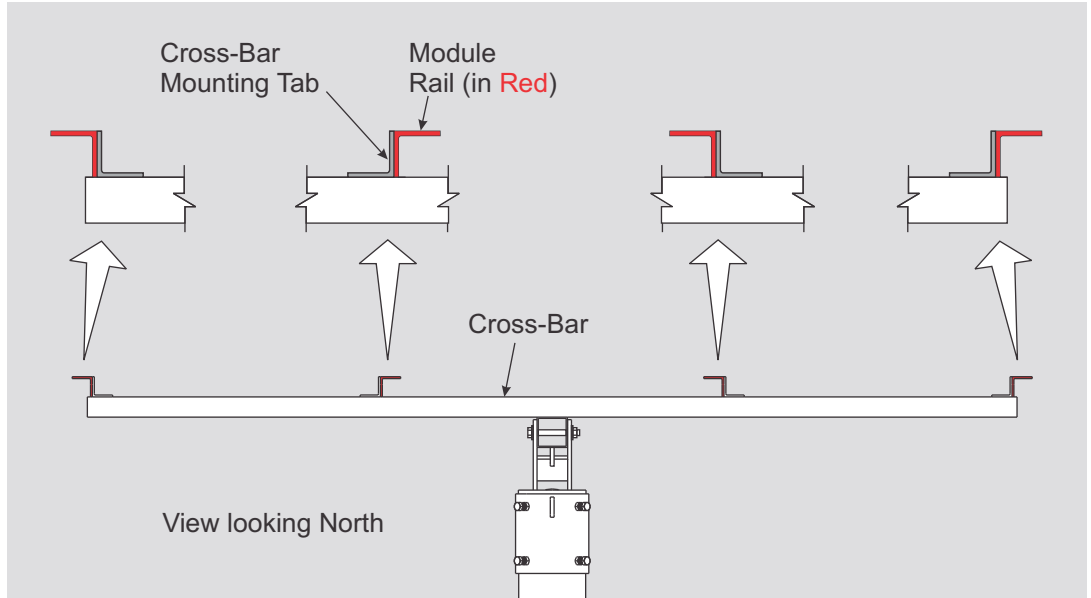
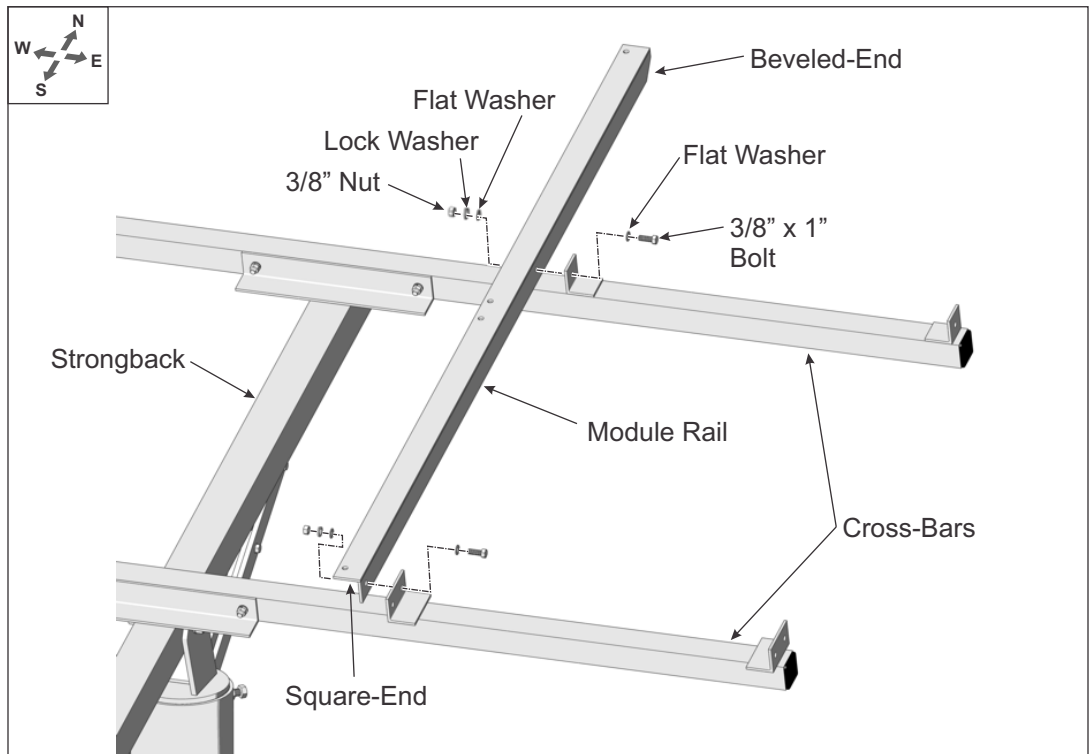
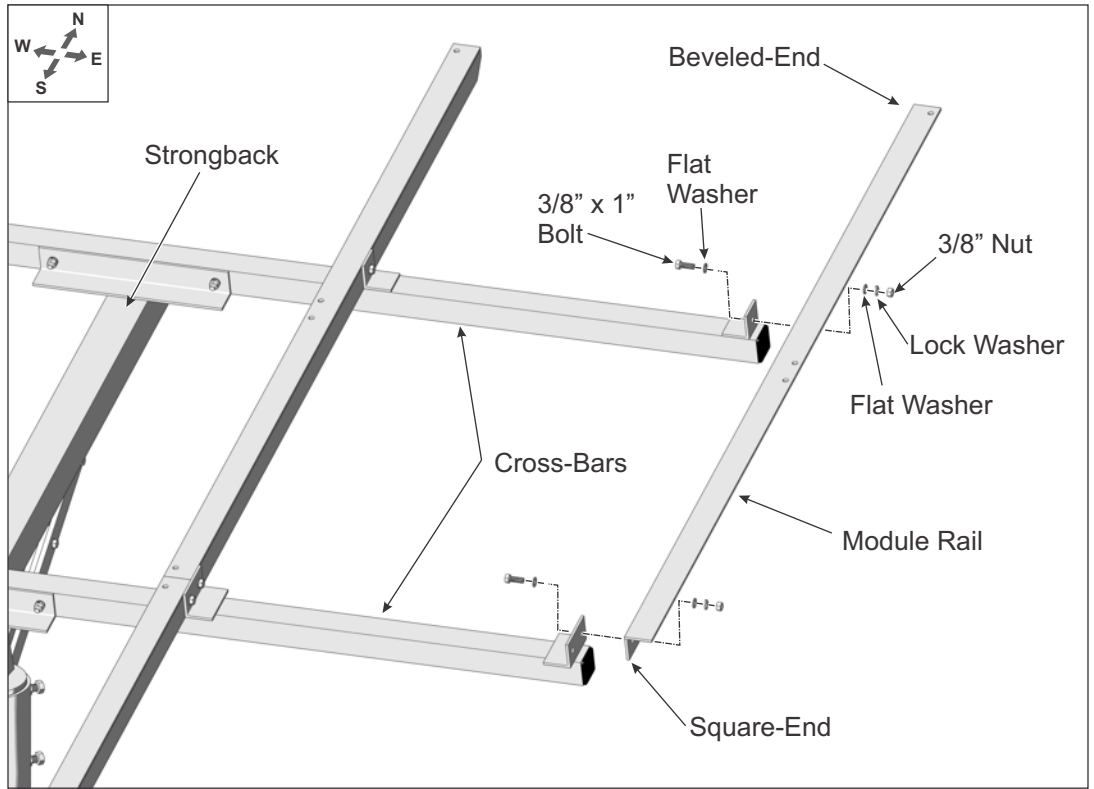

Figure 4-1: Orientation of Module Rails to Cross-Bars
Figure 4-2: Installing the Northern-most Inboard Module Rails to Cross-Bars
Figure 4-4: Installing the Northern-most outboard Module Rails to Cross-Bars
Additionally, Module Rails are installed differently depending on whether they are mounted inboard or on the outer edges of the Cross-Bars. (See Figure 4-1)
- A. Referring to Figure 4-1 for orientation of the inboard Module Rails, position the first section of Module Rail (with its angle cut end positioned north) at the northern most position on the Cross-Bars. Align the Module Rail mounting holes with the holes of the Cross-Bar mounting tabs and secure with 3/8" x 1" bolts and hardware. Finger-tighten for now. (See Figure 4-2)
- A. Referring to Figure 4-1 for orientation of the outboard Module Rails, position the first section of Module Rail (with its angle cut end positioned north) at the northern most position on the Cross-Bars. Align the Module Rail mounting holes with the holes of the Cross-Bar mounting tabs and secure with 3/8" x 1" bolts and hardware. Finger-tighten for now. (See also Figure 4-4)